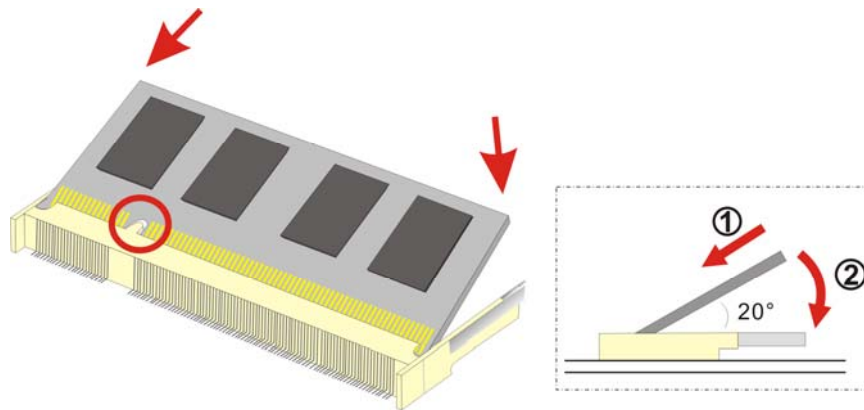

Figure 3-5: DDR2 SO-DIMM Module Installation
Step 5: Install the new DDR memory module by pushing it into the socket at an angle (**Figure 3-5**).
Step 6: Gently pull the spring retainer clips of the SO-DIMM socket out and push the rear of the DDR memory module down (**Figure 3-5**).